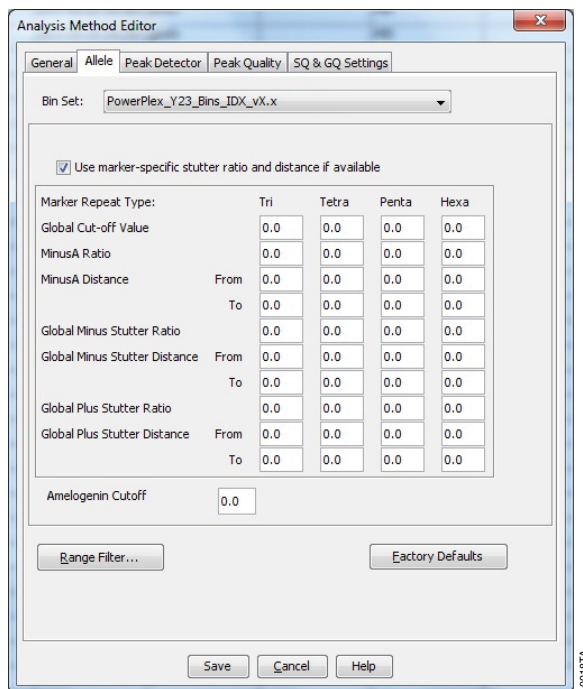

Figure 12. The GeneMapper® ID-X 'Allele' tab.
6. Select the 'Allele' tab (Figure 12).
8. Ensure that the "Use marker-specific stutter ratio and distance if available" box is checked. Doing this will assign locus-specific stutter filters and distances from the imported stutter file. We recommend the settings shown in Figure 12 for proper filtering of stutter peaks when using the PowerPlex® Y23 System. You may need to optimize these settings. In-house validation should be performed.